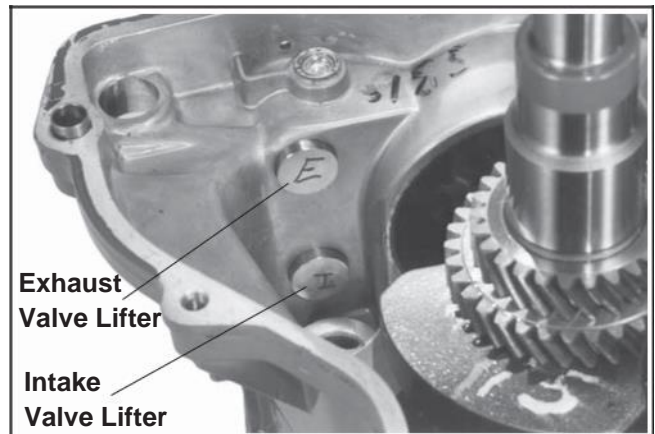

Figure 11-36. Installing Hydraulic Lifters (Camshaft Removed to Show Lifter Positions).
1. Lightly lubricate the bottoms of the lifters with oil and install into their respective bores. See Figure 11-36. **Do not prime the lifters.**